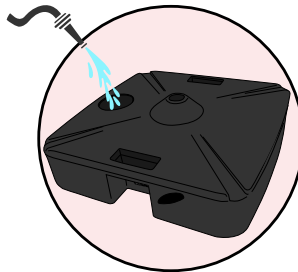

Fig 4.
4. Fill the waterbases with water, making sure that the screw cap is secure. (see fig 4)